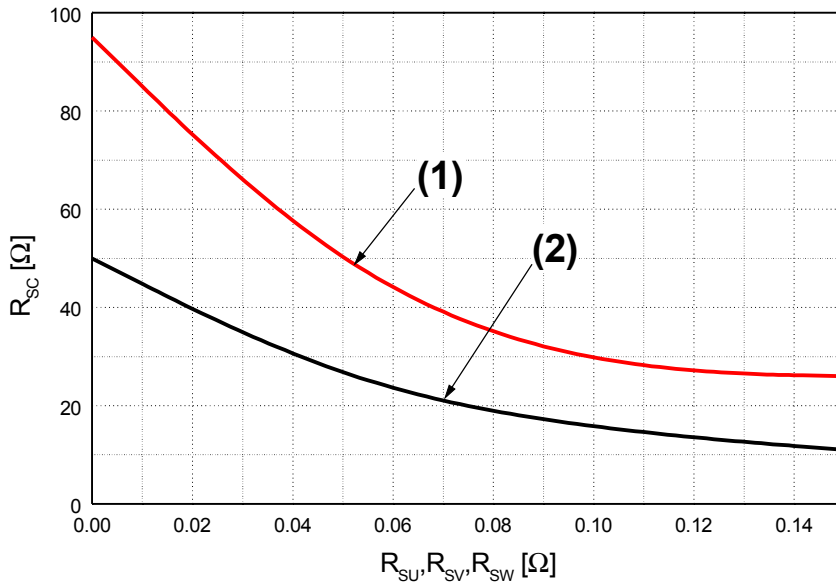

Fig. 7. R_{SC} Variation by change of Shunt Resistors (R_{SU}, R_{SV}, R_{SW}) for Short-Circuit Protection
- Short-circuit current protection is functioning only at the low-sides. It would be recommended that the value of the external sensing resistor (R_{SC}) should be selected around 50 Ω in order to make the SC trip-level of about 15A at the shunt resistors (R_{SU}, R_{SV}, R_{SW}) of 0Ω. For the detailed information about the relationship between the external sensing resistor (R_{SC}) and the shunt resistors (R_{SU}, R_{SV}, R_{SW}), please see Fig. 7.